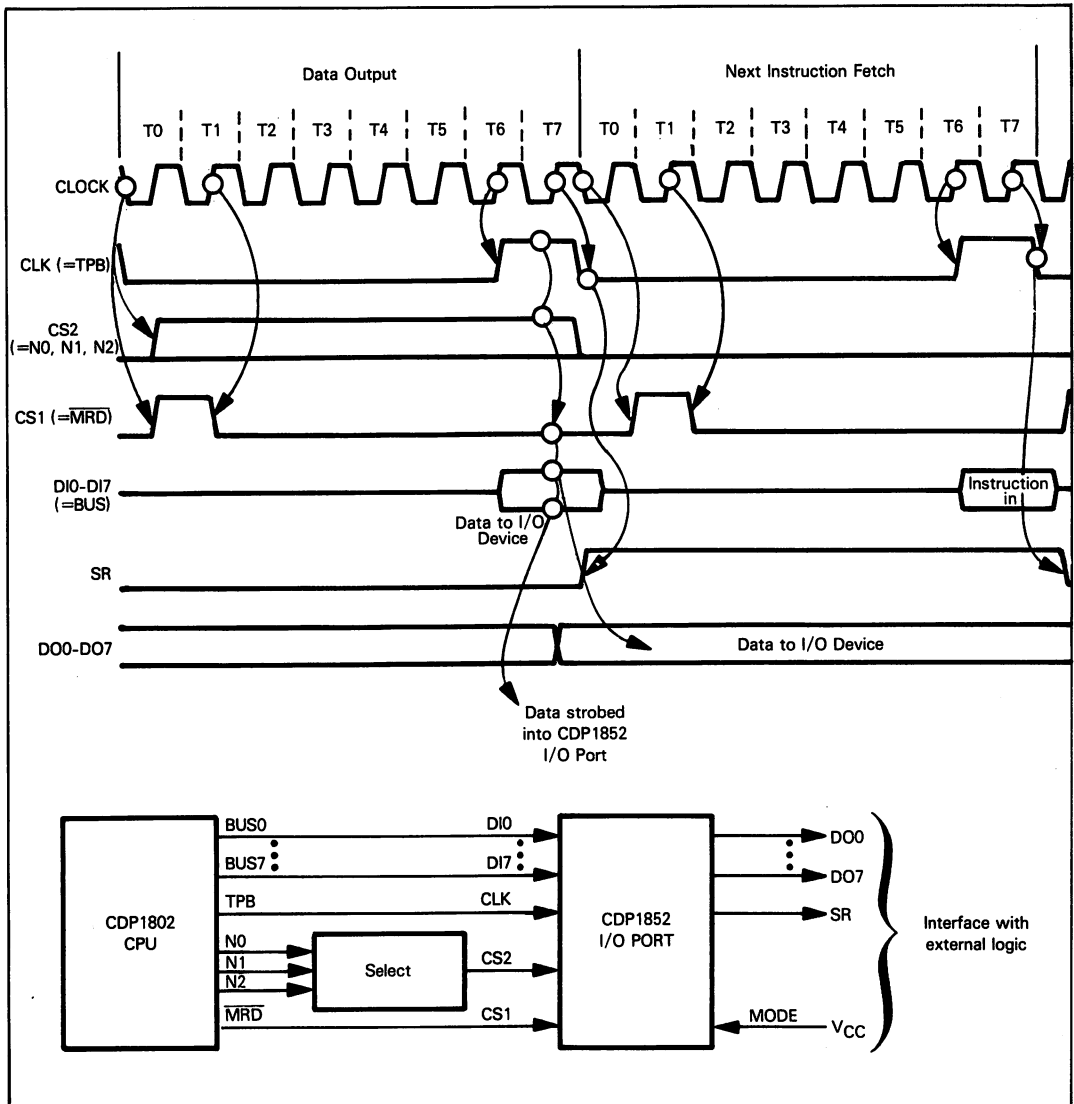
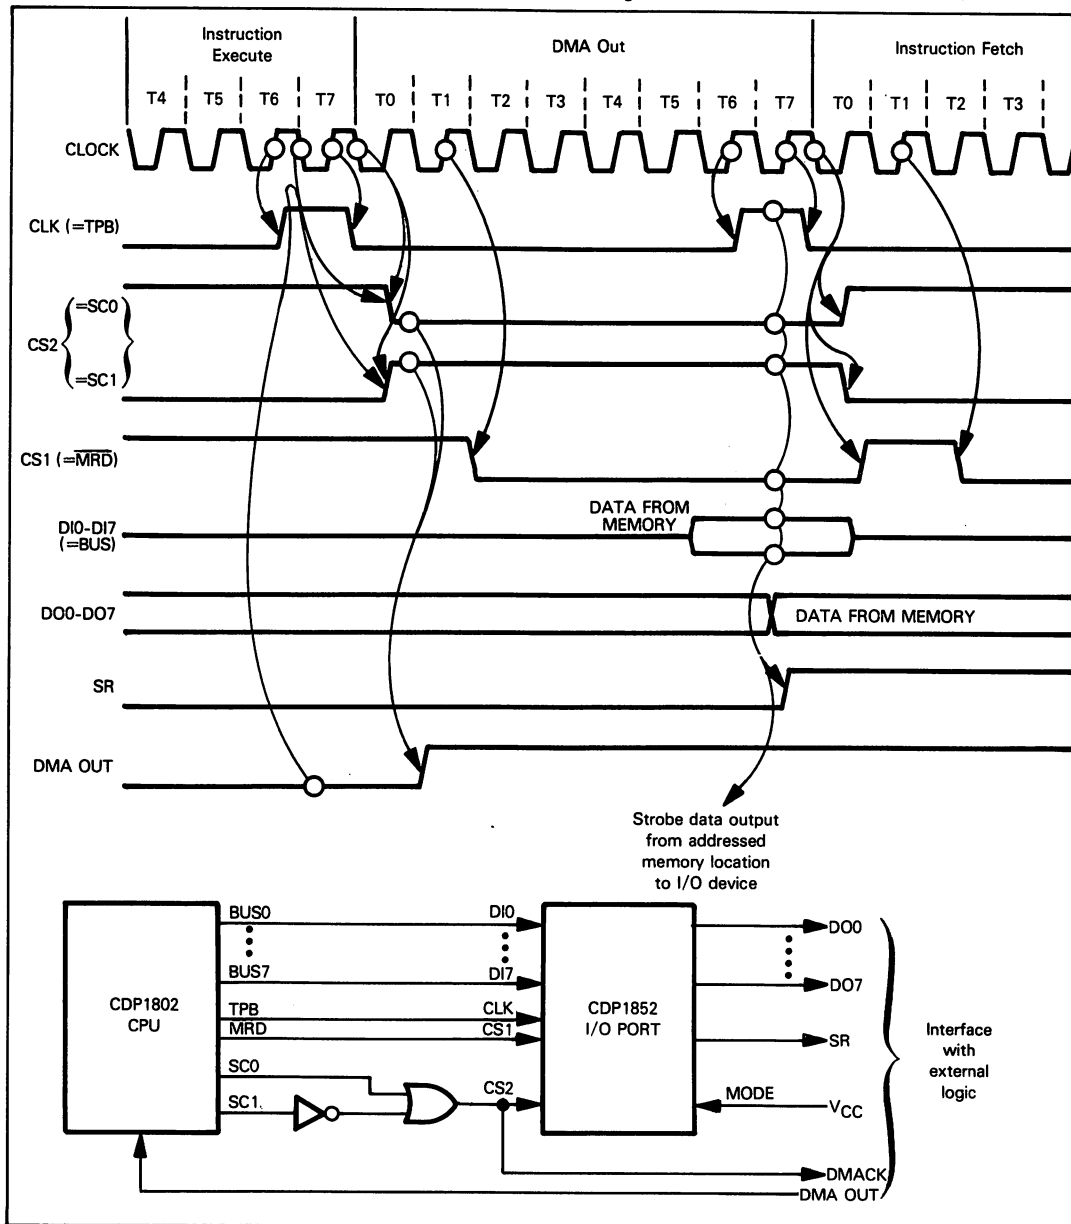

Figure 12-13. CDP1852 I/O Port in Output Mode with Programmed Output
Figure 12-14. CDP1852 I/O Port in Output Mode with DMA Output
There are two ways in which it would make sense to operate the CDP1852 device in output mode: the CPU could initiate the operation by executing an output instruction, or external logic could initiate the operation by applying a low signal at  $\overline{DMA-OUT}$ . Figure 12-13 provides timing and signal connections for the CPU initiating the output operation with an output instruction. Figure 12-14 provides timing and signal connections for external logic initiating the output operation by applying a low signal at  $\overline{DMA-OUT}$ .
**First consider the CDP1852 I/O port operating in output mode with programmed output, as illustrated in Figure 12-13. Before looking at this figure in detail, you should be familiar with Figure 12-9 and its associated text.**
When a CDP1852 I/O port is being operated in output mode, the output lines DO0-DO7 are always active, outputting the contents of the I/O port. Data input via DIO-DI7 is latched into the I/O port by the combination of CLK high, CS2 high, and CS1 low. In Figure 12-13 we connect CLK to TPB; this becomes the actual data strobe. This data strobe is conditioned by CS2 being high and CS1 being low. CS1 is tied to the memory read control signal MRD, which must be low during an output operation. CS2 is connected to the I/O select lines N0, N1, and N2, thus creating the required device select when more than one CDP1852 I/O port is present. As soon as the
**Figure 12-14 illustrates CDP1852 output mode operation using the CPU direct memory access logic. Before looking at this figure, you should be familiar with Figure 12-7 and associated discussion.**
External logic initiates the data output in Figure 12-14 by inputting a low signal via  $\overline{\text{DMA-OUT}}$ . This signal must be low at the end of T6 in a non-instruction fetch machine cycle. The DMA-OUT machine cycle is identified by SC0 high and SC1 low; this combination is sent back to external logic as a DMA acknowledge. External logic must use this DMA acknowledge in order to set  $\overline{\text{DMA-OUT}}$  high again. If  $\overline{\text{DMA-OUT}}$  remains low for the DMA-OUT machine cycle, then a number of DMA-OUT machine cycles will be executed.
During the DMA-OUT machine cycle, valid data is output from the memory location addressed by R0. The presence of valid data on the Data Bus is identified by the TPB high pulse with  $\overline{\text{MRD}}$  low. The CPU Data Bus is connected to the CDP1852 D10-D17 input lines. This data input is clocked into the CDP1852 device by CLK high, CS2 high, and CS1 low. In order to achieve these conditions, we once again connect CLK to TPB and CS1 to  $\overline{\text{MRD}}$ . CS2, which was generated from N0, N1, and N2 in Figure 12-13, is now generated from SC0 and SC1. When these two signals identify a DMA machine cycle, CS2 is true. CS2 also becomes the DMA acknowledge signal which is sent back to external logic.
As soon as CLK is high, SC0 is high, and SC1 is low, data input via D10-D17 is strobed into the CDP1852 I/O port. This data immediately appears at D00-D07, and SR is output high. As illustrated in Figure 12-13, SR will remain high until the next high-to-low transition of CLK — which will occur at the end of the next machine cycle.
As seen by external logic, the output operation illustrated in Figure 12-14 begins when external logic inputs  $\overline{\text{DMA-OUT}}$  low. Upon receiving DMACK high, external logic must set  $\overline{\text{DMA-OUT}}$  high again. When SR subsequently is output high, external logic knows that new data has been output and must be read.